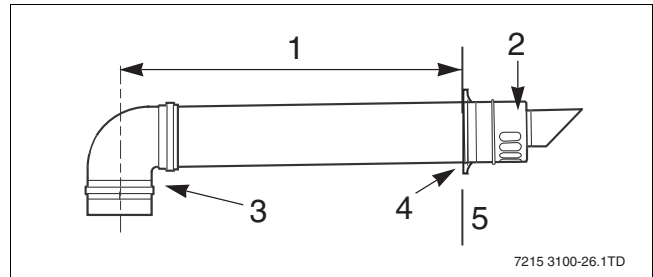

Fig. 26 Installation with horizontal flue gas turret
- The standard flue is suitable for lengths upto 660 mm (→ fig. 26). For longer flue runs upto 12.0 m, extension air/flue ducts are available.